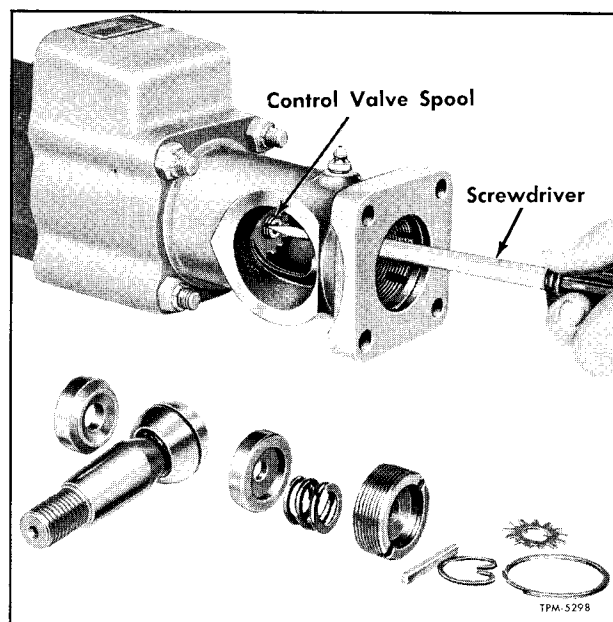

Figure 7—Adjusting Booster Cylinder Control Valve Spool
5. Start engine and run at fast idle (approximately 600 to 700 rpm) to operate power steering hydraulic pump. Insert a screwdriver in slot of spool as shown in figure 7. Hold the centering nut firmly in position, and adjust the spool until the rod is in 1/2 extended position. To do this turn the spool clockwise to retract or counterclockwise to extend the rod. The spool is centered when the rod does not creep in either direction.